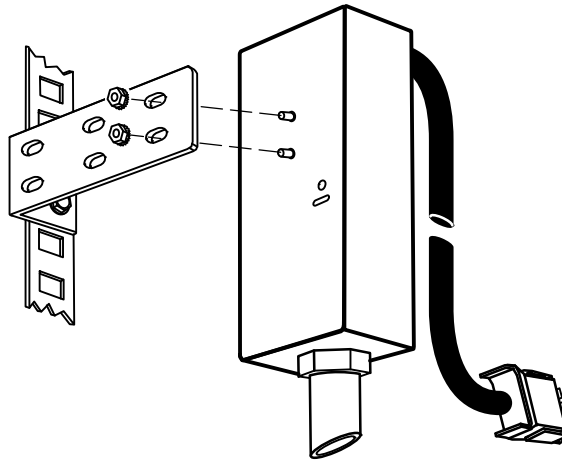
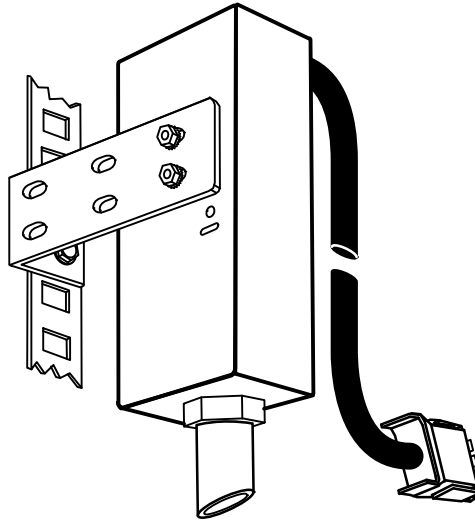

Figure 9. Insert Threaded Studs (Back Position Shown)
Figure 10. External Battery Interconnect Secured to Mounting Bracket
3. With the External Battery Interconnect facing to the right, insert the threaded studs through the desired holes in the long flange of the mounting bracket (see Figure 9).
4. Secure the External Battery Interconnect to the long flange of the mounting bracket using the two M4 hex nuts with captured star washers that were removed from the threaded studs earlier (see Figure 9 and Figure 10).